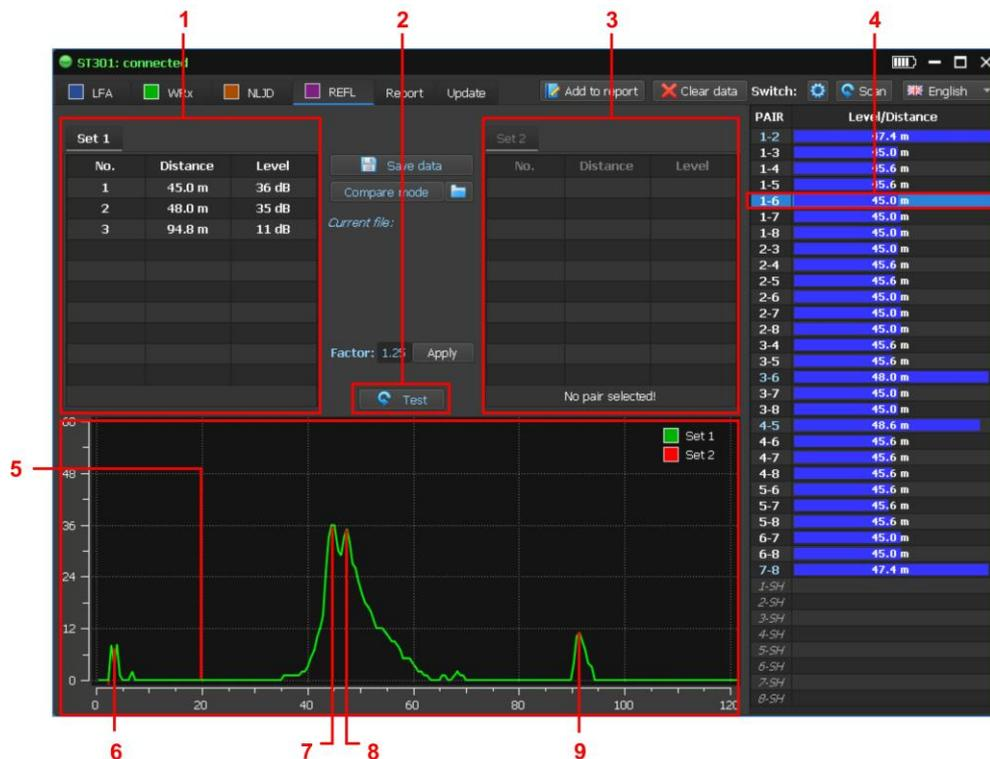

Fig.83
- result tables of "Set 1" and "Set 2" with information about all detected heterogeneities in a pair of wires (Fig. 83, item 1 and item 3);
- reflectogram (Fig. 83, item 1).
Result tables displayed all detected responses in the connected pair of wires (Fig. 83, item 4). Data can be obtained after a single test of this pair or after a test cycle in AUTOMATED mode.
Two tables ("Set 1" and "Set 2") are displayed. It is possible to operate with only one (active) table. In the active table, data is displayed in white (Fig. 83, item 1). In an inactive table, data is displayed in gray (Fig. 83, item 3). To activate a table, click on it.
Fig. 83 shows a reflectogram obtained by testing the pair "1-6", which is associated with the active table "Set 1".
REFLECTOGRAM INTERPRETATION (in Fig.83):